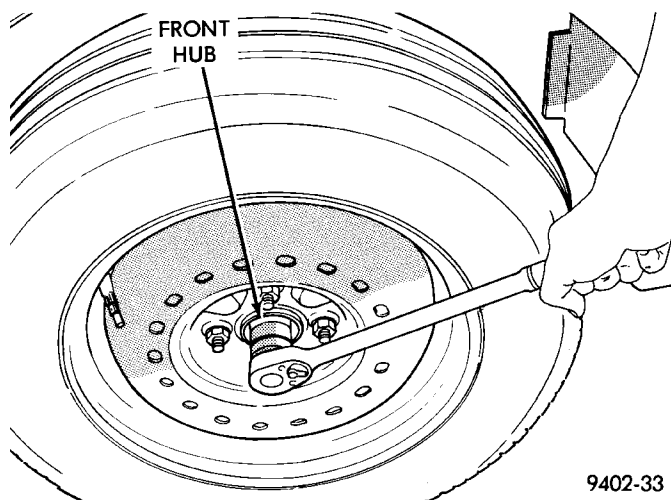

Fig. 15 Loosening Front Hub Retaining Nut
(2) Loosen hub nut while vehicle is on the floor with the brakes applied (Fig. 15). **The hub and driveshaft are splined together through the knuckle (bearing) and retained by the hub nut.**
(3) Raise vehicle on jack stands or centered on a